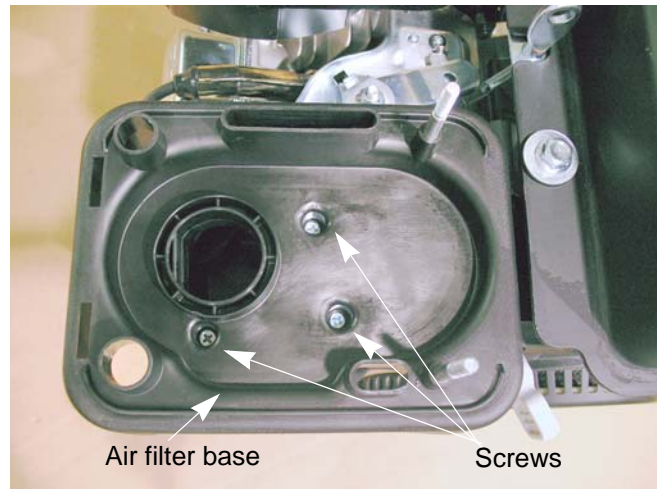

Figure 3.7
2. Remove the three screws that hold the air filter base to the intake elbow. See Figure 3.7.